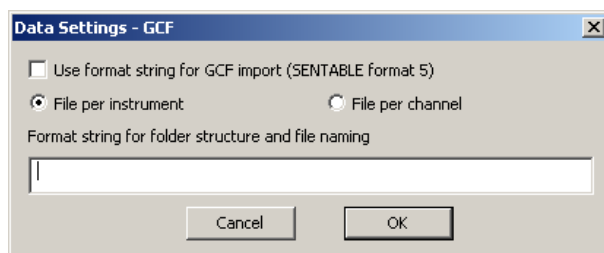

Figure 5-30: GCF import Dialog.
- b. If the type of data is GCF then a Dialog will be launched that allows the user to configure the file and folder structure in which the data is stored (Figure 5-30). The option to use this Dialog information must be checked ('Use format string for GCF import') and the corresponding SENTABLE.txt file set to option 5. The correct radio button for whether a file is written per instrument (multi-channel) or per channel should be selected. The format string should be given following the rules given in Guralp's SCREAM! manual. The format specifier can contain the following characters: